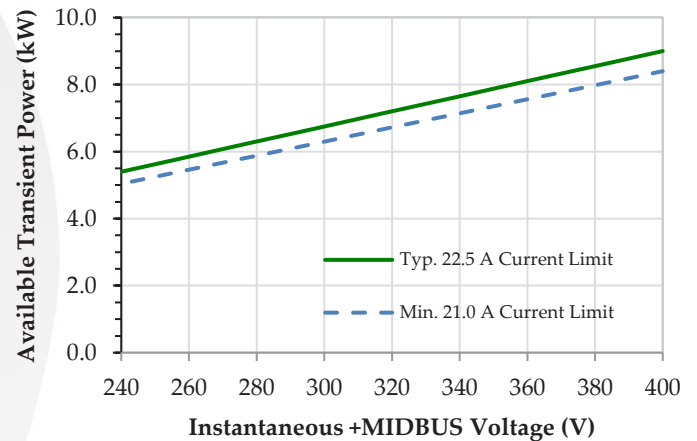

Figure 15: Available transient power vs. instantaneous +MIDBUS voltage. See Figure 13 for steady-state voltage.
remain reverse-biased until the +MIDBUS voltage drops below the level shown in Figure 13. Using relatively low capacitance at +MIDBUS allows the +MIDBUS voltage to drop to this level quickly, allowing the converter to contribute some power to +VOUT (see Figure 15). The voltage rating for capacitors at +VOUT should be at least 450 Vdc.
$V_f$  is the minimum capacitor voltage during the transient. (For cap at +MIDBUS, determine from Figure 15; for cap at +VOUT, determine based on downstream requirements)
When the holdup capacitor is located at +MIDBUS,  $V_i$  will be a function of line voltage (see Figure 13) and load current.  $V_f$  will be a function of load power during line interruption because of the +MIDBUS current limit (see Figure 15 and further discussion in the section entitled “+MIDBUS Current Limit”).
- 4) Current limit tolerance (21 A minimum, which raises the required  $V_f$  to sustain load power as shown in Figure 15)
Figure 18 shows an example of a 50 ms line interruption. Note that for the conditions in Figure 18, the ideal equation would predict  $C_{holdup} > 6$  mF. Yet the actual capacitor used was 7.5 mF, chosen to keep the minimum voltage well above the available transient power shown in Figure 15 and to account for the combined effects of items 1, 2, 5, and 6 discussed above.